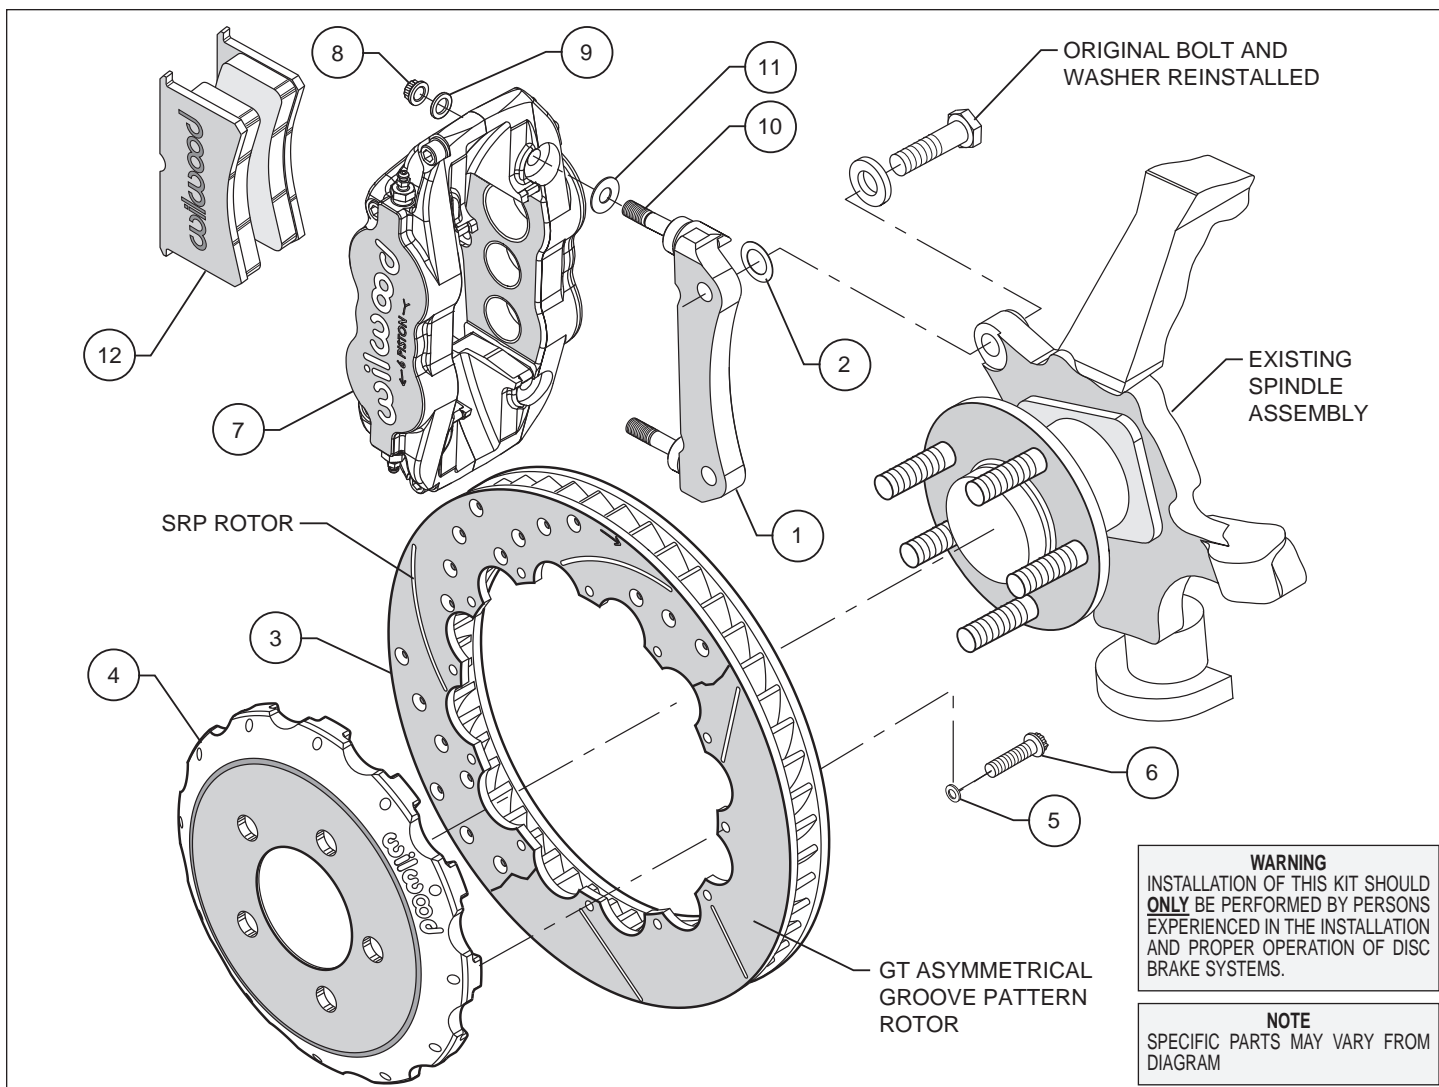
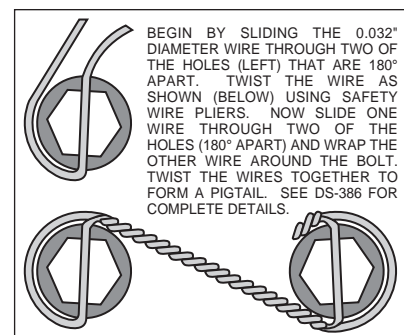

Figure 1. Typical Installation Configuration
Figure 3. Safety Wire Diagram
- Assemble the rotor (3) to the hat (4) with the bolts (6) and washers (5) as indicated in the configuration pictured in Figure 1. Using an alternating sequence, apply red *Loctite*® 271 to the threads and torque bolts to 155 **in-lb**. For an added measure of security, the bolts may be safety wired using standard 0.032 inch diameter stainless steel safety wire as shown in Figure 3. Please refer to Wilwood's data sheet DS-386 (available at www.wilwood.com/Pdf/DataSheets/ds386.pdf) for complete safety wire installation instructions.